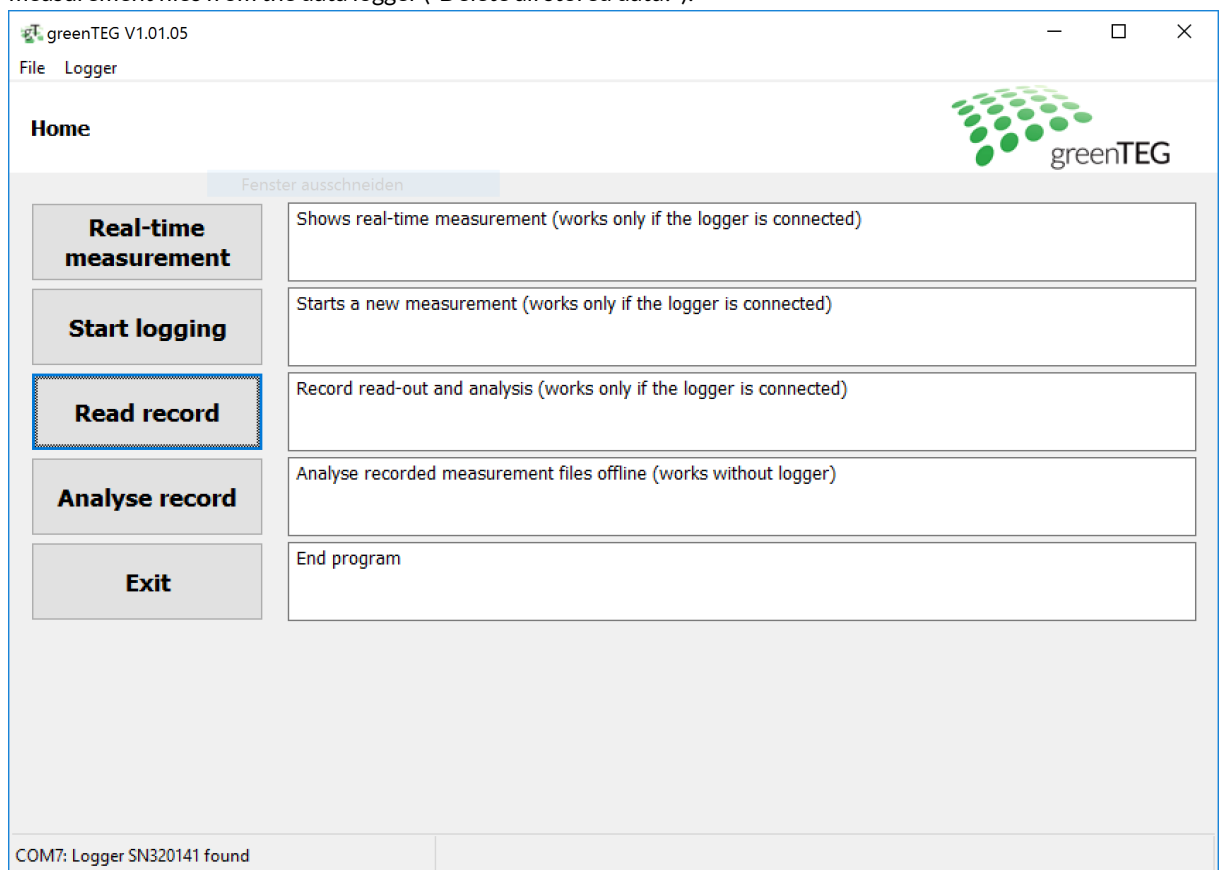

Figure 2: Home screen view with data logger connected to your laptop.
The gSKIN® U-value software is built upon a home screen with 5 functional buttons and 2 top-menu buttons (see Figure 2).
4. When you open the software, the home screen will appear (See Figure 2). Under "File" > "Language" you can change the language settings from English to German or vice versa.